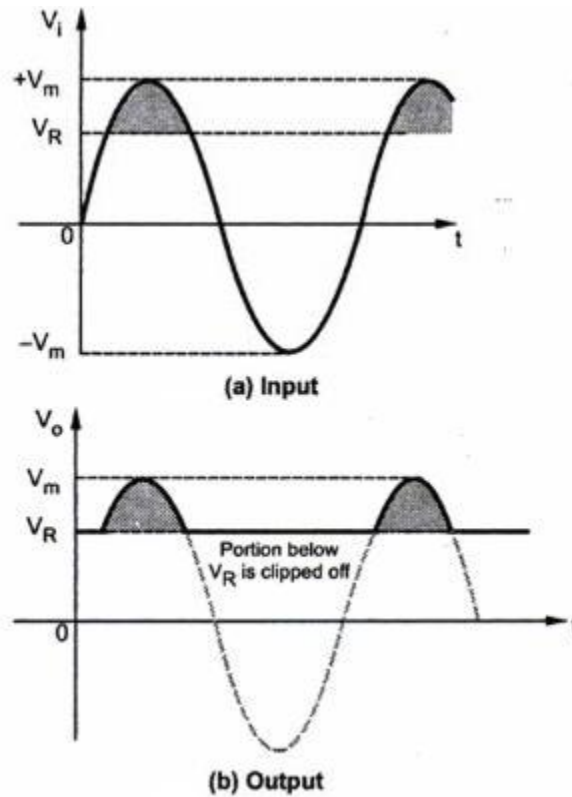

Fig. 1.56 Clipping below V_R
- The Fig. 1.56 (a) shows the sinusoidal input voltage V_i and the Fig. 1.56 (b) shows the corresponding output waveform.